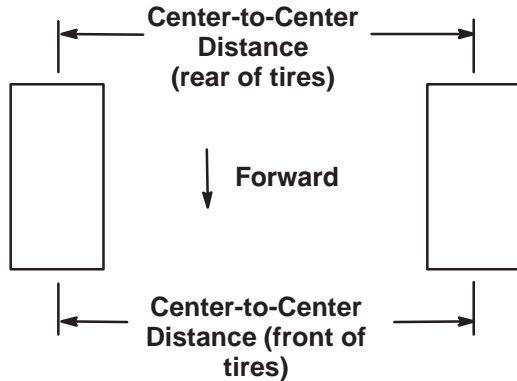

Figure 35
2. Measure the distance between both of the front tires at the axle height (at the front and rear of the wheels) (Fig. 35). The front measurement must be equal to the rear measurement $\pm 1/4$ in. (6.4 mm).